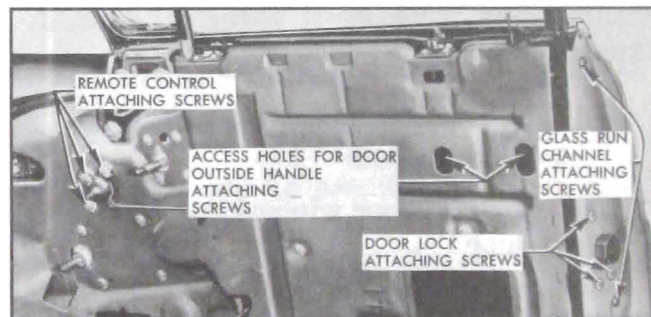

Figure 13-204—Front Door Lock Mechanism
2. Remove glass run channel attaching screws on face of lock pillar. See figure 13-204. Lower glass run channel from behind window frame extension and remove from door.
4. Remove lock attaching screws from face of door lock pillar, as shown in figure 13-204, and remove lock from door through large access hole.
3. Remove remote control attaching screws, as shown in figure 13-204, and detach remote control from connecting rod.
3. Through access holes at upper rear of door, as shown in figure 13-204, remove handle attaching screws; then remove handle and gaskets with attached connecting rods from door.